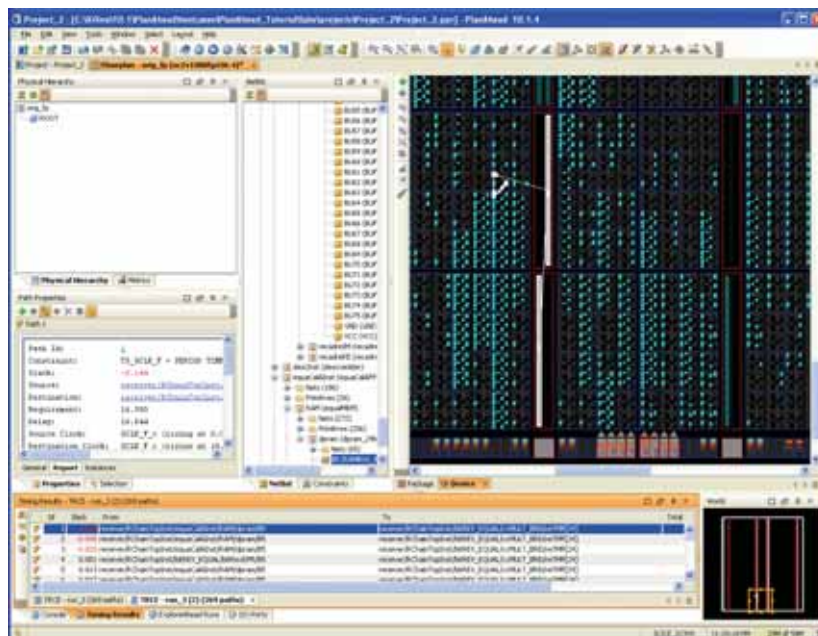

Figure 2 – PlanAhead software 10.1 shows a corrected path after locking down DSP48 and block RAM
6. Select the failed timing path and verify that the path looks optimal (see Figure 2).